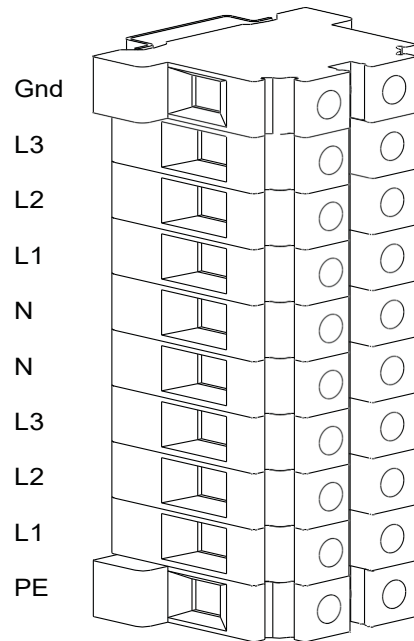

Figure 62. BladeUPS Hardwired Terminal Block
- 8. Connect the input and output wires to the terminal block according to Figure 62 and Table 9.